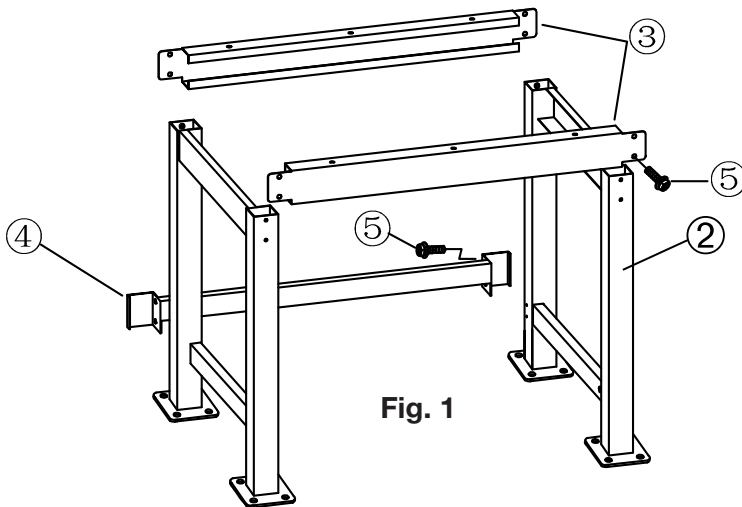

Fig. 1
Step 1: As shown in the drawing, put the two legs (2) upright and opposite to each other, and then connect the upper beams (3) to the legs (2) with short screws (5). As shown in (Fig.1).
Step 2: Insert the back lower beam (4) into the back legs from the back side, its connecting hole aligned with the lower connecting holes of the legs, and fit it with the short screws (5). As shown in (Fig.1).